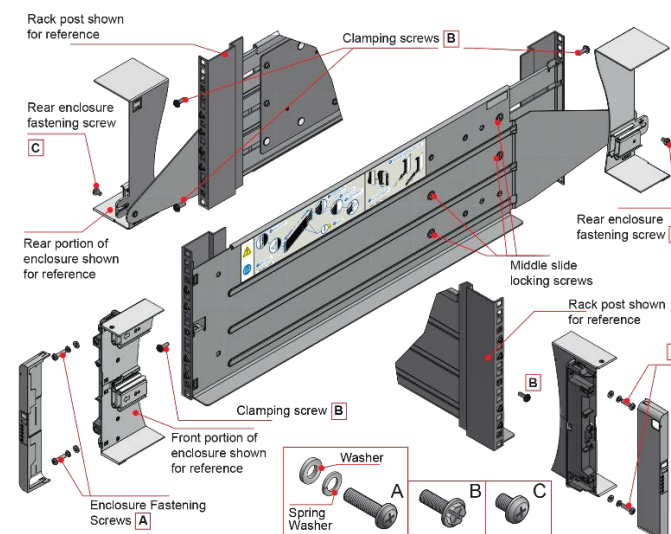

Figure 2: Mounting the system into a rack (left hand rail only shown for clarity)
2. Locate the rail location pins inside the front of the rack and extend the length of the rail assembly to enable the rear location pins to locate. Ensure the pins are fully located in the square or round holes in the rack posts (see Figure 2).
5. Fasten the front of the enclosure using the enclosure fastening screws and washers (x4) as shown in Figure 2.